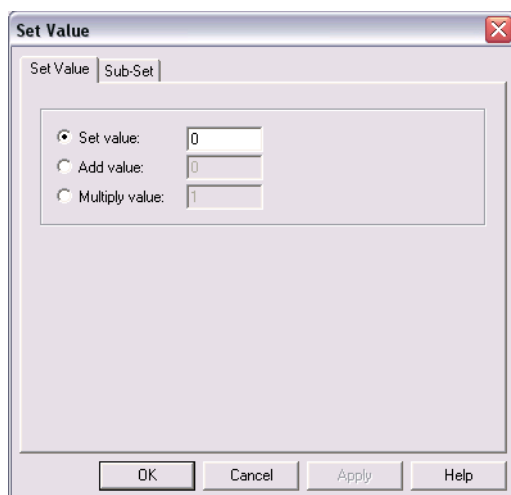

Figure 3.43 The set value dialog. Choose the appropriate land value for the dfs2 file
5. Access the 'set value' through the 'Tools' menu of the main MIKE Zero tool bar and provide the land value of the dfs2 file in the active box (see Figure 3.43).